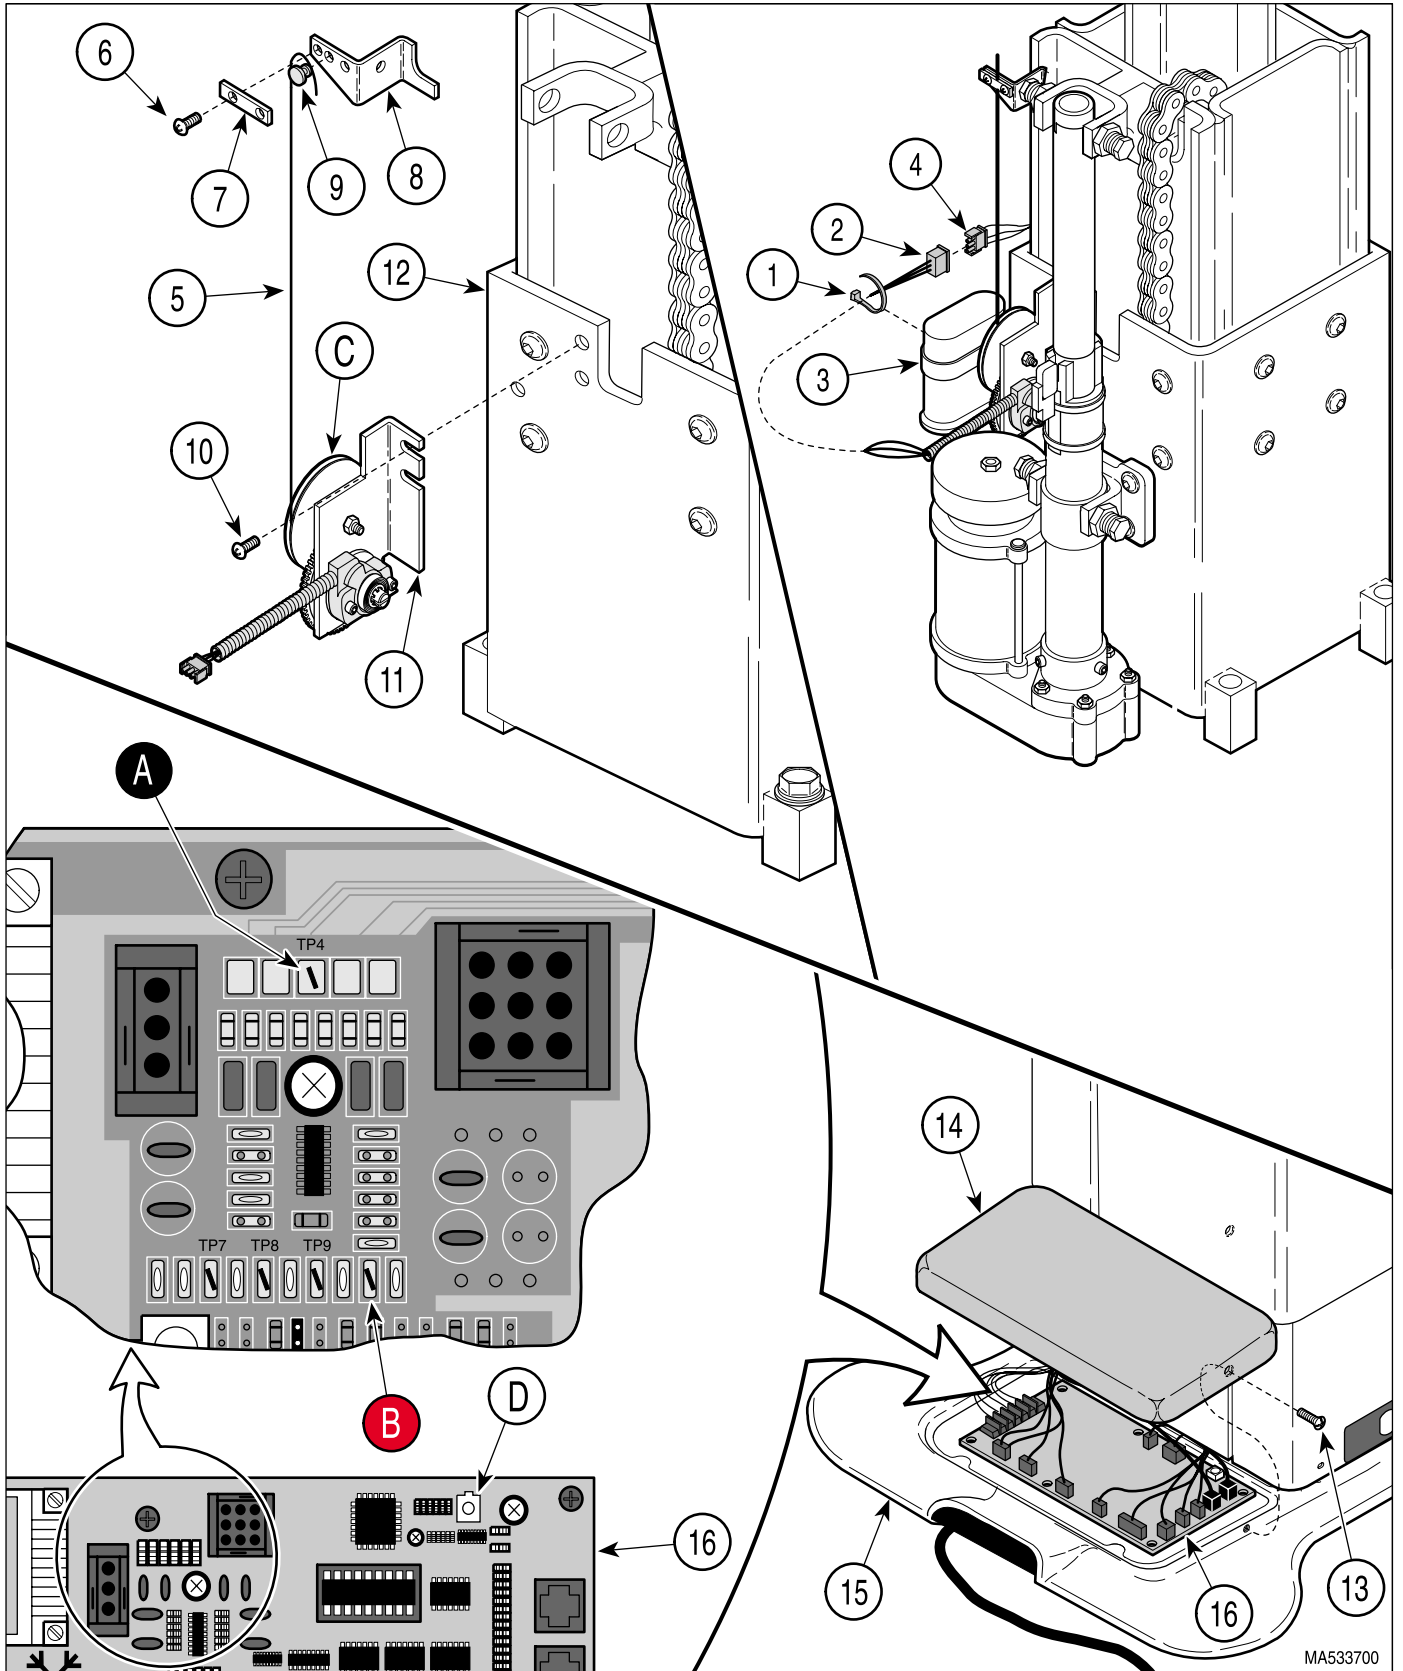

Figure 4-59. Base Reducer Assembly Removal / Installation
(6) Remove four screws (8), four screws (9) and partially remove R.H. and L.H. inner shrouds (10) from base casting (11).
(7) Cut cable tie (1, Figure 4-59) securing base sensor harness (2) to capacitor strap (3).
(8) Disconnect base sensor harness (2) from harness (4).
(9) While holding cable (5), remove two screws (6) and cable clamp (7) from cable bracket (8).
(10) Unloop end of cable (5) from around grommet bumper (9) and then slowly release tension from cable.
- (1) Remove two screws (13, Figure 4-59) and PC board cover (14) from base casting (15).
- (11) Connect base sensor harness (2, Figure 4-59) to harness (4).
- (12) Secure base sensor harness (2) to capacitor strap (3) with a cable tie (1).
- (13) Plug table power cord into outlet receptacle.
- (14) Wrap cable (5) around pulley (C) three times in direction shown.
- (21) Connect one modular cord (6) to each inlet PC board (7).
- (22) Assemble R.H. and L.H. middle shrouds (5) around inner shrouds (10) with four screws (4).
- (23) Install tabs (A) of R.H. and L.H. outer shrouds (10) in slots (B) of column adapter weldment (3) and secure with four screws (1), making sure middle outer shroud assembly (5) is captured by R.H. and L.H. outer shrouds (2).
- (24) Remove multimeter leads from TP4 (A, Figure 4-59) and Test Point (B) of PC control board (16).
- (25) Unplug table power cord from outlet receptacle.
- (26) Depress and hold the PROGRAM / FAULT CLEAR button (D, Figure 4-59) while simultaneously plugging the table power cord into the outlet receptacle.
- (27) After the PROGRAM MODE lamp and FOOT REST EXTENSION lamp of the foot/hand control go out, release the PROGRAM / FAULT CLEAR button (D).
- (1) Perform steps 1 thru 6 of para 4.40, Removal.
- (2) Loosen two screws (6, Figure 4-59).
- (3) Perform steps 1, 2, 3 and 15 thru 30 of para 4.40, Installation.